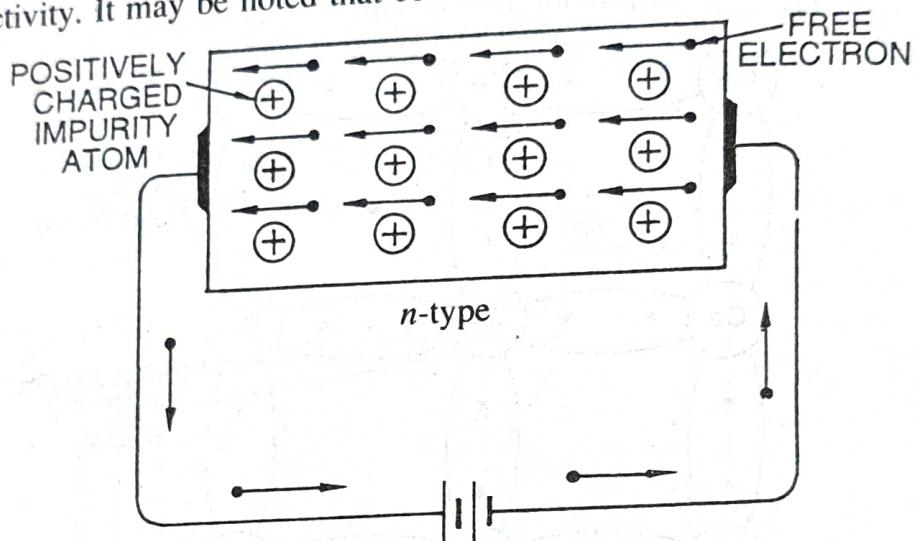

Fig. 8.13
**n-type conductivity.** The current conduction in an *n-type semiconductor* is predominantly by free electrons *i.e.* negative charges and is called *n-type or electron type conductivity*. To understand *n-type conductivity*, refer to Fig. 8.13. When p.d. is applied across the *n-type semiconductor*, the free electrons (donated by impurity) in the crystal will be directed towards the positive terminal, constituting electric current. As the current flow through the crystal is by free electrons which are carriers of negative charge, therefore, this type of conductivity is called negative or *n-type conductivity*. It may be noted that conduction is just as in ordinary metals like copper.